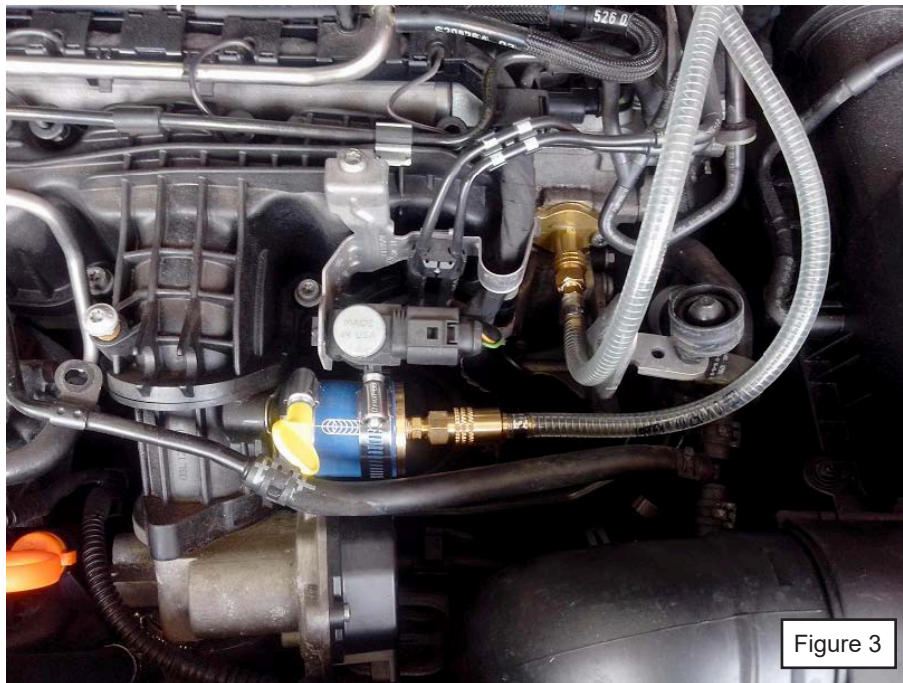

Figure 3
5. Install EGR Intake (EEDF400-503) and Exhaust (EEDF400-502) Adapters in its place (see figure 3). Use the existing two bolts on the EGR Exhaust adapter and tighten the clamp on the EGR Intake adapter.